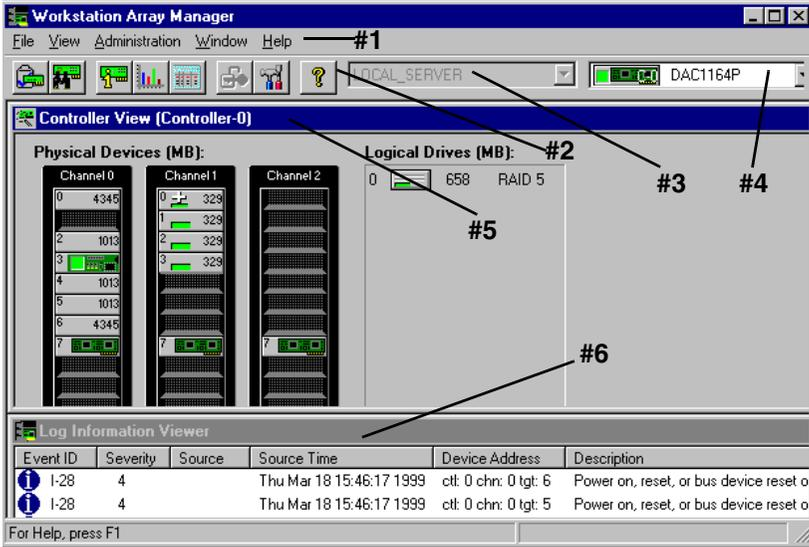

Figure 3-2. Opening WSAM Screen
Upon startup, Workstation Array Manager displays the opening screen, consisting of the Workstation Array Manager window, the Controller View window and the Log Information Viewer (Figure 3-2).
The major components of the Workstation Array Manager window (Figure 3-2) are described below:
5. Item **#5** in Figure 3-2 is the Controller View for the controller selected in the controller selection box. WSAM opens with the controller view of controller C-0 displayed by default. The controller view displays controller channels, physical devices, and logical drives. See Chapter 5 for additional information.
6. Item **#6** in Figure 3-2 is the *WSAM Log Information Viewer*. Each line in the Log Information Viewer identifies a single *event* (error, status, warning, etc.) which was noted during monitoring by the local server and was transmitted to WSAM. Relevant details accompany the event: